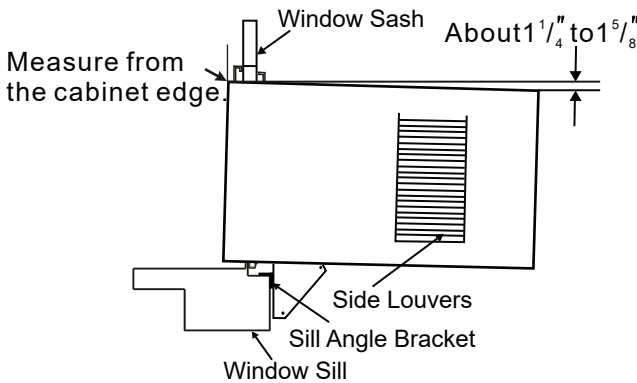

Fig. 14
**NOTE:** Check that air conditioner is tilted back about  $1\frac{1}{4}$  " to  $\frac{5}{8}$  " (tilted about  $4^\circ$  downward to the outside). After proper installation, condensate should not drain from the overflow drain hole during normal use, correct the slope otherwise (Fig. 14).